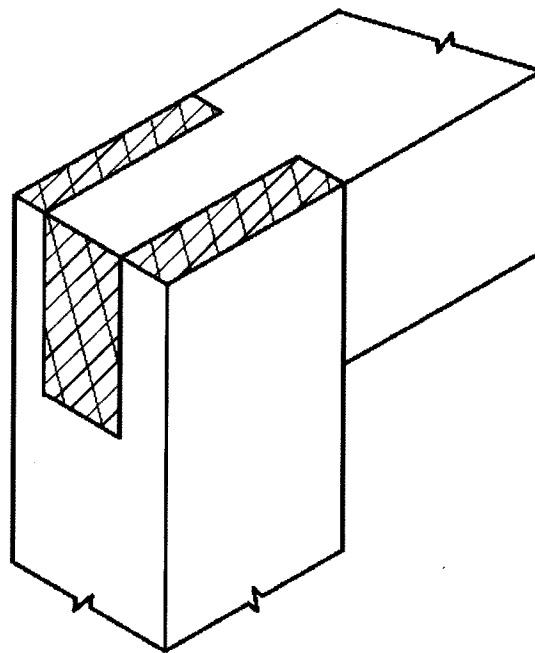

Figure 5
10. **Figure 5** shows an Isometric view of a bridle joint.